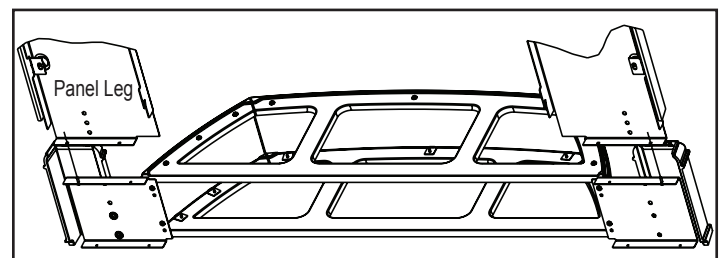

Figure 22.7
8. Place the assembled hearth support under the insert. **Figure 22.7.**